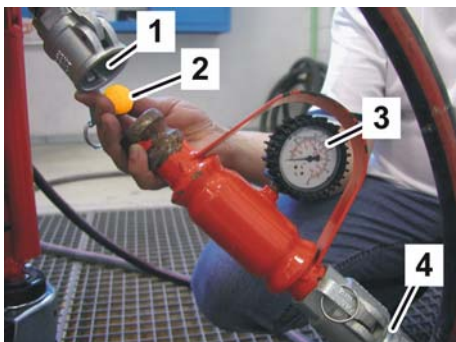

Fig. 49: Connecting the mortar hose
23. Introduce the water-soaked sponge ball (Fig. 49/2) into the mortar manometer (Fig. 49/3).
24. Connect the mortar hose (Fig. 49/4) with the mortar pressure manometer (Fig. 49/3) to the plaster component (Fig. 49/1).